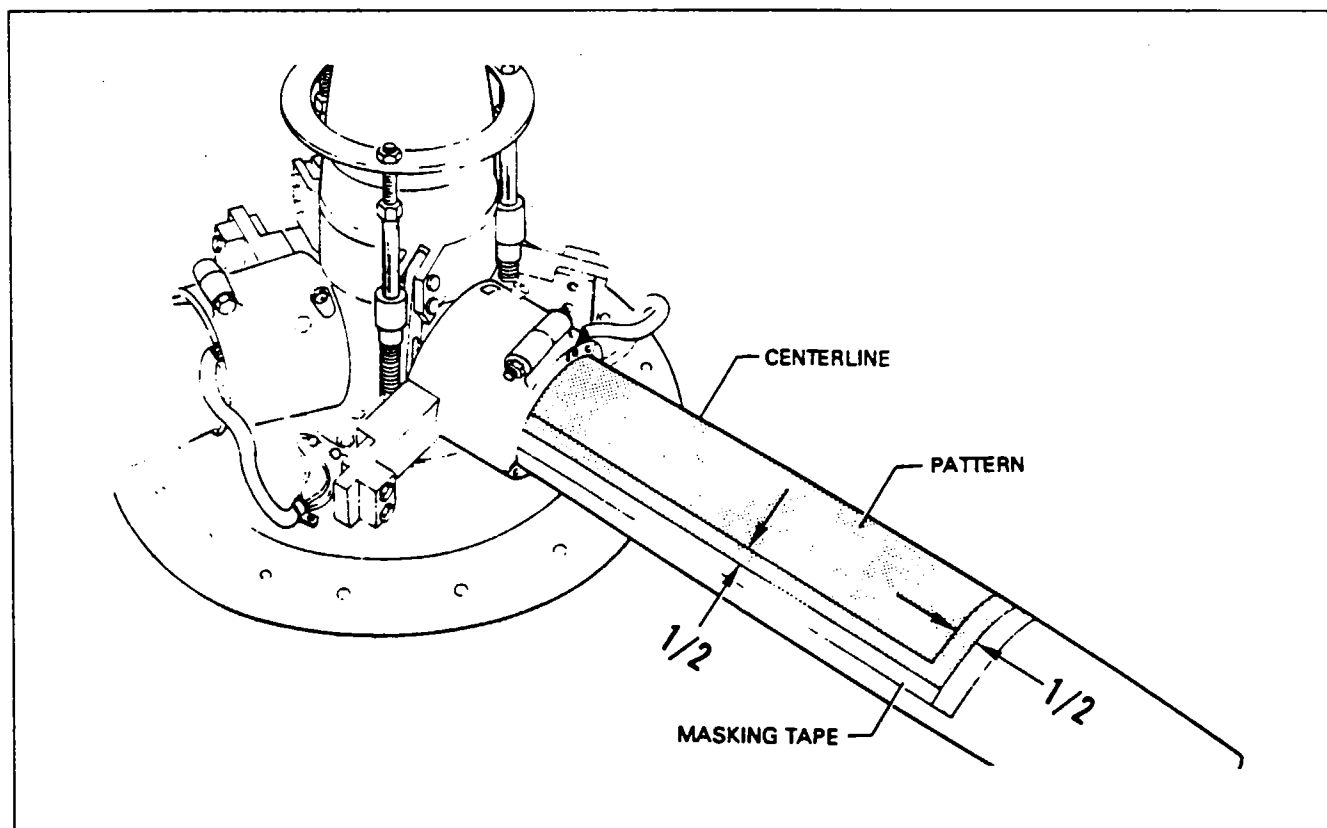

Figure 30-28. Installation of Deicer Boots (Typical) Figure 30-29. Wrinkled Deicers
1. Mark and cut from masking tape a pattern the size of propeller deicer. (Refer to Figure 30-28.)
- A. Position in the deicer on the propeller leading edge, using centerlines starting from the hub. (Refer to Figure 30-28.) Make sure that the strap will fall in the position previously marked. Working towards the tip, tack the deicer centerline to the leading edge of the propeller blade. Use tackifying solvent as necessary. If the deicer is allowed to get off course, pull up with a quick motion and remove deicer. Recement if necessary before proceeding. Roll firmly along the centerline with a rubber roller, as shown in Figure 30-28.